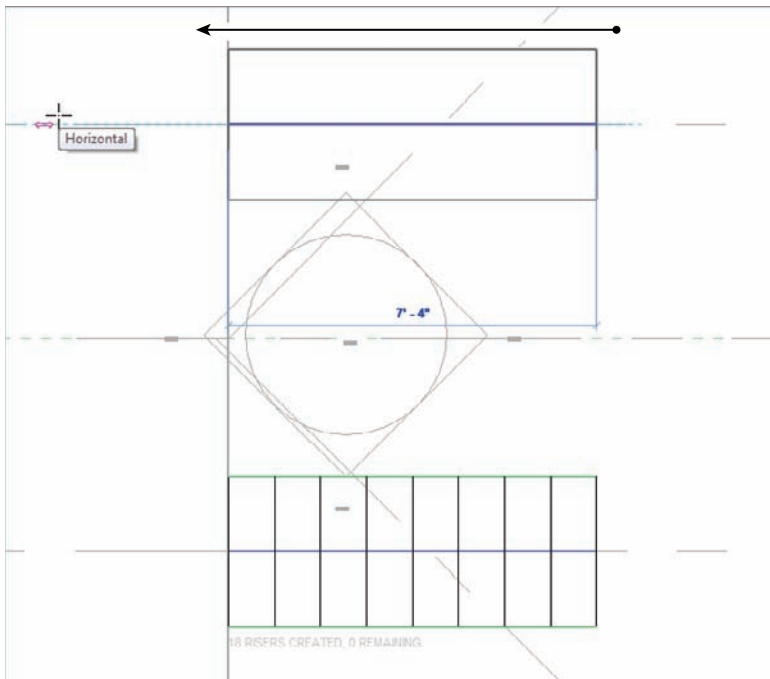

FIGURE 10.5 Make sure your cursor is way past the end of the stairs.
13. Move your cursor to the left, all the way past the floor landing. Revit reports that you have 18 created, 0 remaining (see Figure 10.5).